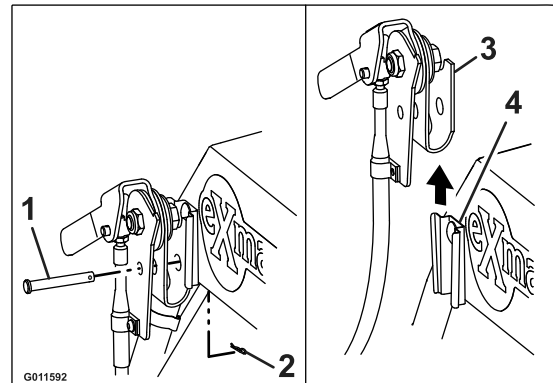

Figure 20
- **For all Walk-Behind Units except Vantage:** Slide the handle assembly upward and out of the mounting bracket as shown in Figure 20.
- **For Vantage Units:** Slide the handle assembly rearward and out of the mounting bracket as shown in Figure 20.